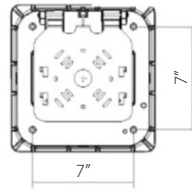

Fig. 6
- 2) Fasten light to the ceiling using mounting holes in plate according to figures 6 and 7